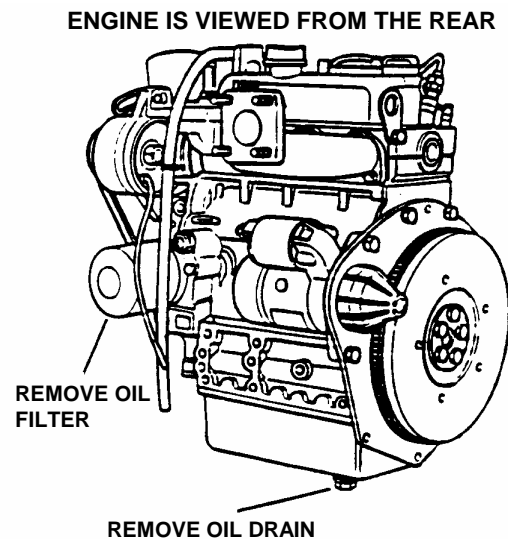

FIGURE 3.1
2. Remove the oil drain plug. See Figure 3.1.
3. After all the oil has drained, reinstall oil drain plug and tighten securely. See Figure 3.1. Wipe up any oil that may have spilled. Dispose of drained oil properly.